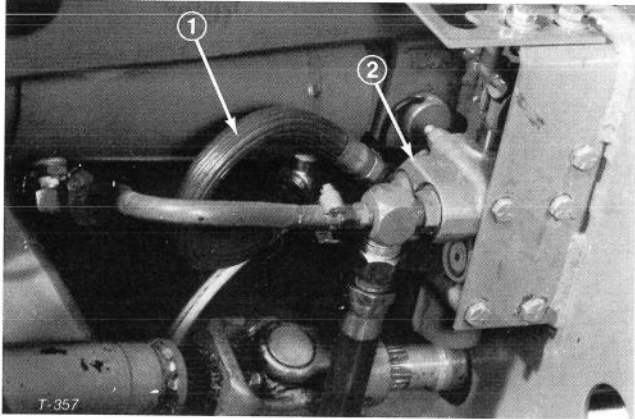

Figure 61
5. Disconnect cylinder hose from 90° fitting on lift valve (Fig. 61). Keep end of hose higher than cylinder to prevent oil from draining out the hose. Plug end of the hose.